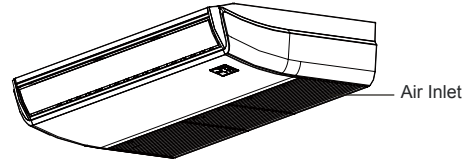

Fig.6-1
- Open the air intake with a screwdriver or something similar. (Refer to Fig.6-1)